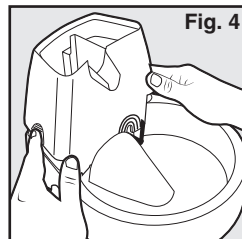

Fig. 4
4. Remove the housing by pressing in the side tabs and lifting up (Fig. 4).